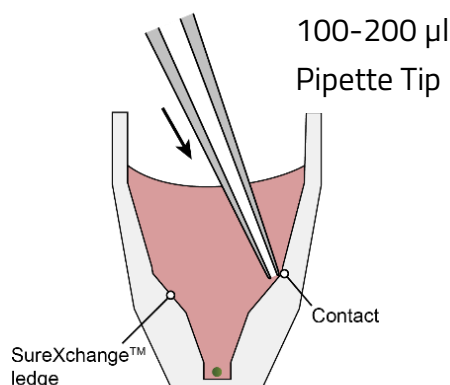

Figure 7: Placing the pipette tip at the SureXchange™ ledge to remove medium from an Akura™ 96 Plate well.
5. Gently pipette the medium up and down and remove medium by placing the tip at the ledge of the upper cavity of the well (Fig. 7). Aspirate until medium is completely removed from each well.